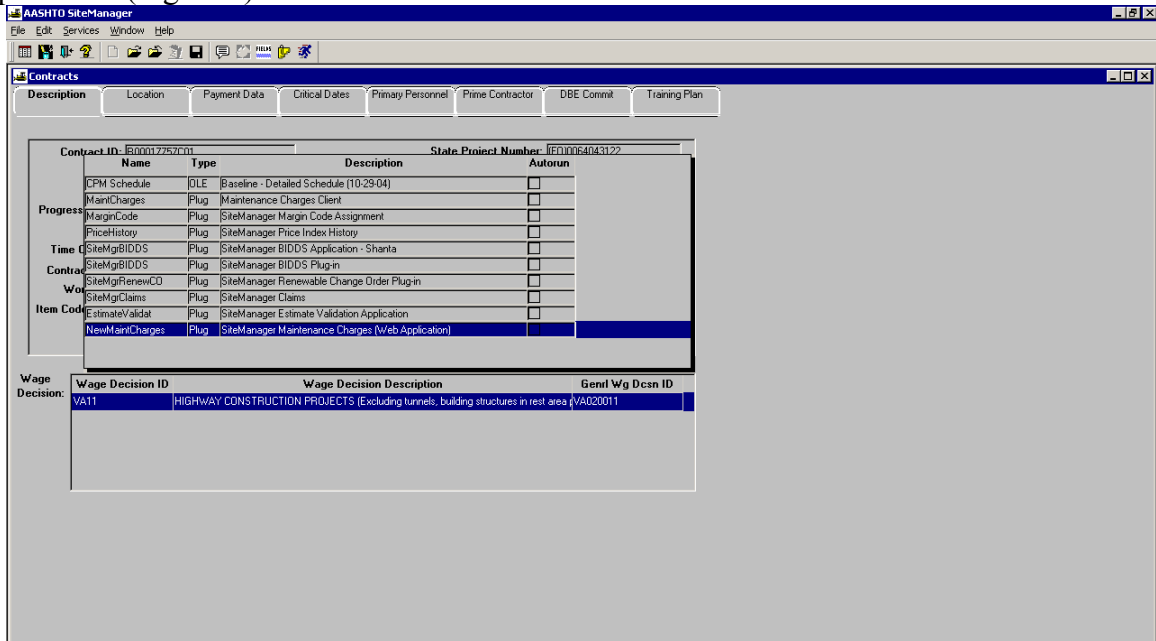

Figure 2
Step 4: The following window should appear with entry for New Maintenance Charges Application. (Figure 2)